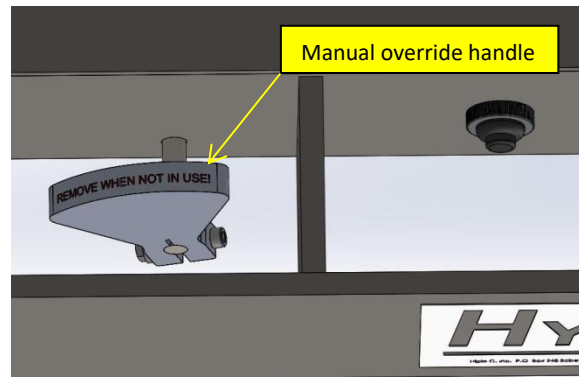

Figure 8
7. Install the manual override handle on the end of the pivot rod with the face of the handle flush with the end of the rod. Position the handle in a way that it would allow full movement for the various positions during operation and tighten the nut. **Figure 8**